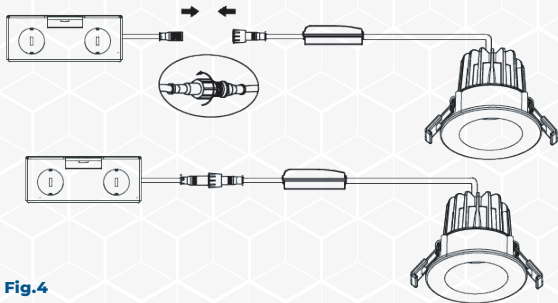

Fig.4
1. Connect light engine. Be sure to properly align connectors and fully screw down connector cover. (see Fig.4)